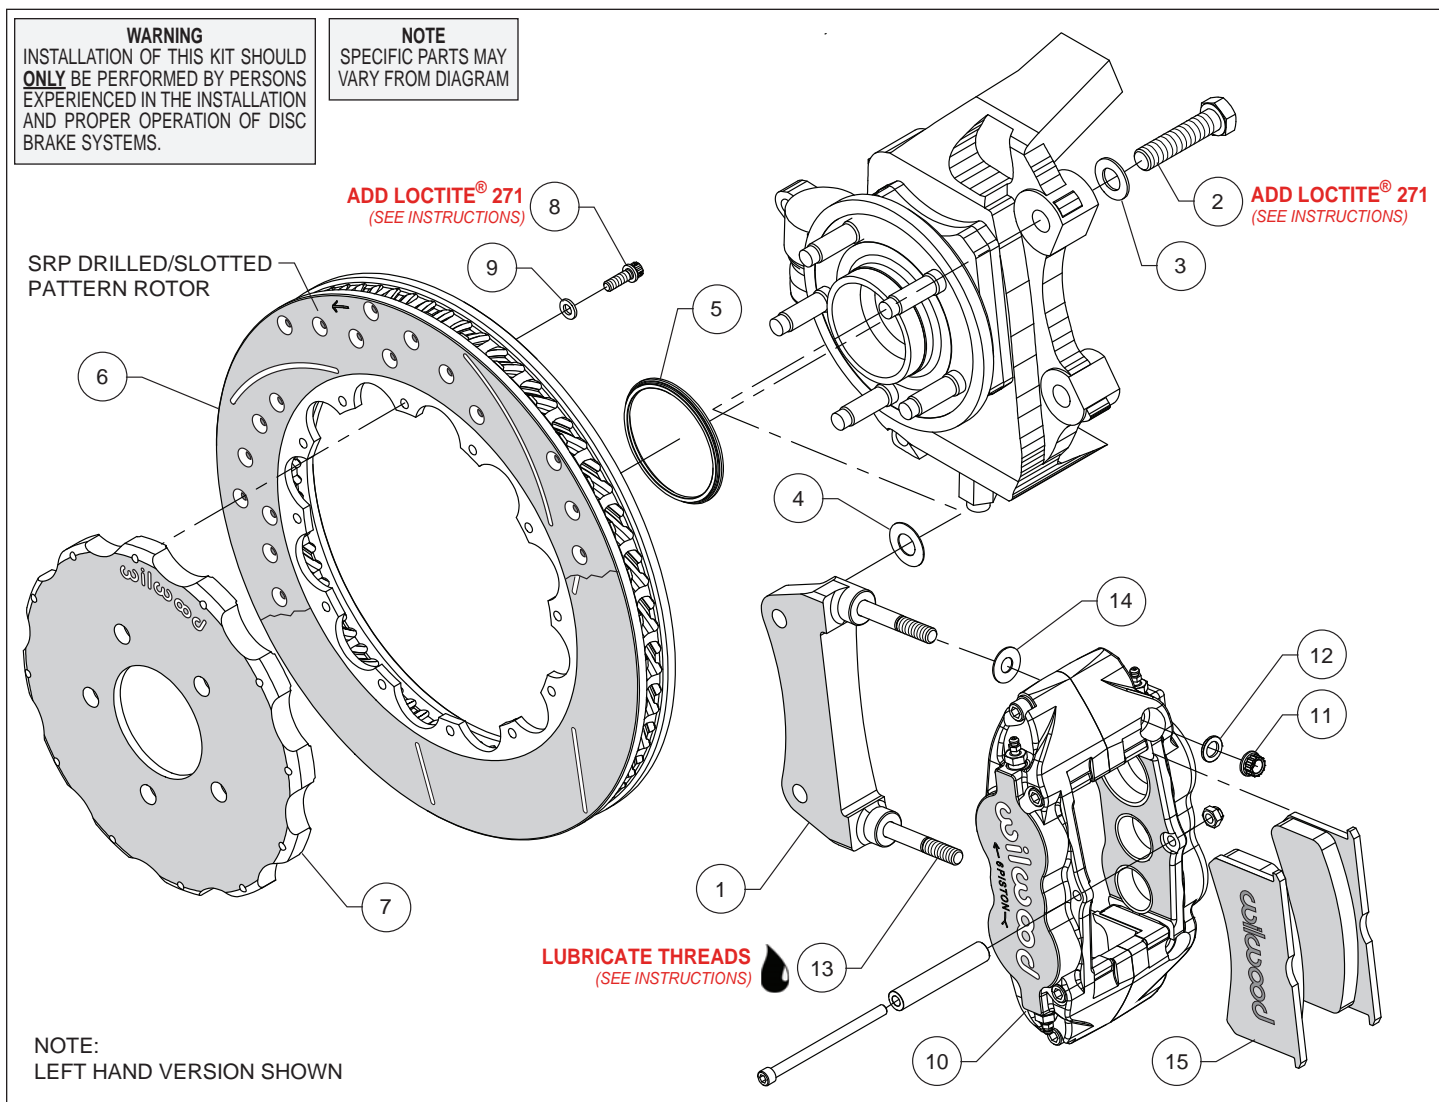
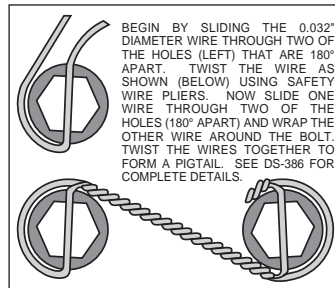

Figure 1. Typical Installation Configuration
Figure 3. Safety Wire Diagram
Assembly Instructions (numbers in parenthesis refer to the parts list and Figure 1 on the preceding pages):
- The caliper mount bracket (1) should initially be installed with clean, dry threads on the mounting bolts. Orient the bracket as shown in Figure 1 and Photo 1, and install using bolts (2) and washers (3). Initially place one .029 thick shim (4) on each bolt between the bracket and upright, Figure 1. Temporarily tighten the mounting bolts. **NOTE:** *The bracket must fit squarely against the mounting points on the upright.* Inspect for interference from casting irregularities, machining ridges, burrs, etc. Later, after the caliper alignment has been checked, the mount bolts will be secured using red *Loctite*[®] 271.
- Orient the rotor (6) and the hat (7) as shown in Figure 1 and Photo 2. Attach rotor to hat using bolts (8) and washers (9). Using an alternating sequence, apply red *Loctite*[®] 271 to the threads, and torque to 155 **in-lbs**. For an added measure of security, the bolts may be safety wired using standard 0.032 inch diameter stainless steel safety wire as shown in Figure 3. Please refer to Wilwood's data sheet DS-386 (available at www.wilwood.com/Pdf/DataSheets/ds386.pdf) for complete safety wire installation instructions.
- NOTE:** *This kit contains distinct right and left hand calipers that must be mounted in a specific direction, as described below.* Lubricate the caliper mounting studs (13) with lightweight oil. Initially place one .035" thick shim (14) on each stud between the caliper and the bracket, as shown in Figure 1 and Photo 5. Mount the caliper (10) onto the bracket (1) using lock nuts (11) and washers (12), Figure 1. Ensure that the caliper is mounted so the largest pistons are at the rotor exit end of the caliper, in relation to the direction of rotor rotation. Temporarily tighten the lock nuts and view the rotor through the top opening of the caliper. The rotor should be centered in the caliper, Photo 6. If not, adjust by adding or subtracting shims (4) between the bracket and the upright. Always use the same amount of shims on each of the two mounting bolts. Once the caliper alignment is correct, remove the bracket mounting bolts (2) one at a time, apply red *Loctite*[®] 271 to the threads, and torque to 77 ft-lbs.